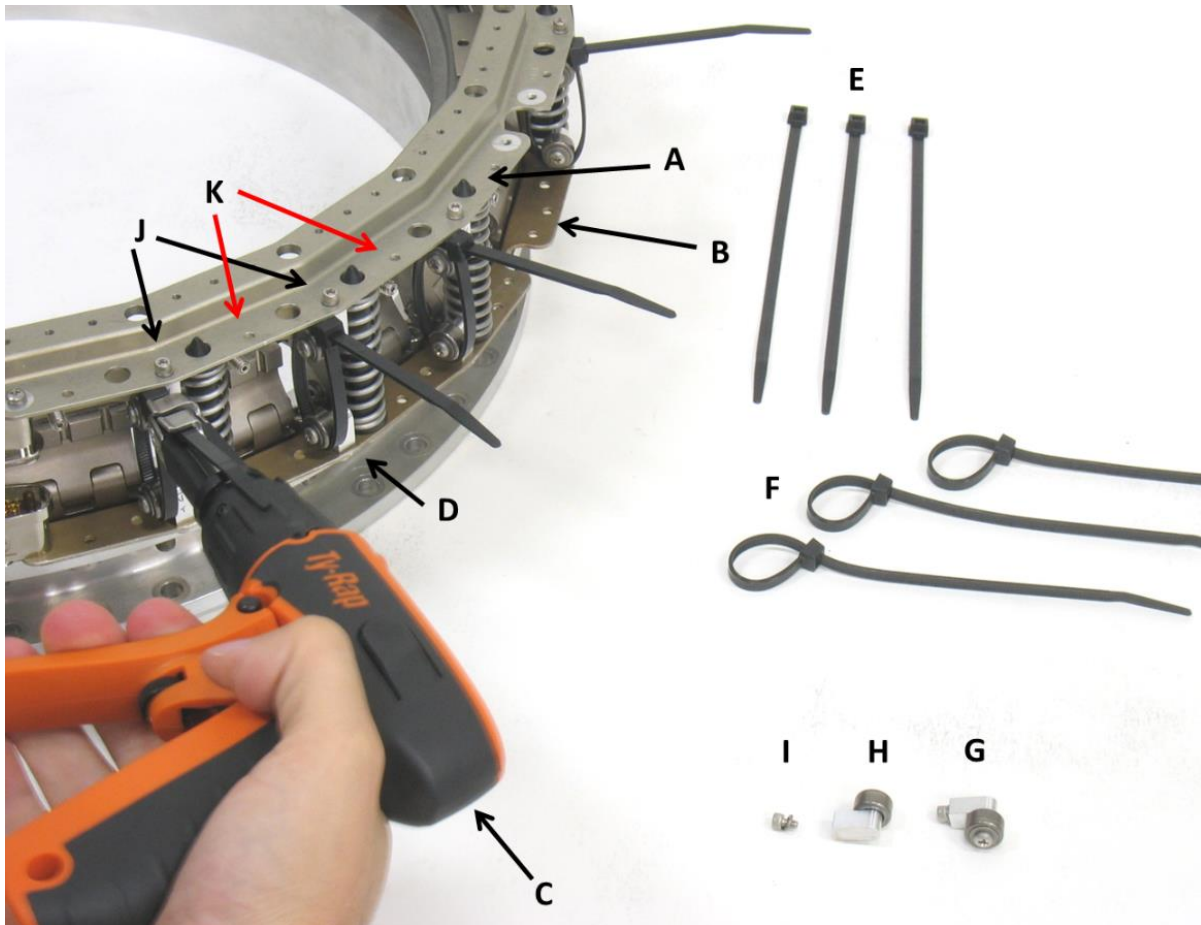

Figure 18-1: LCT Equipment
Figure 18-1 shows the individual equipment necessary to operate LCTs and also the LCTs installed on the Lightband. See Table 3-6 for a detailed equipment list.
18.2.2	<p>Attach one half of the LCT pairs to the Lightband Upper Ring flange. Only use the outboard corner holes of the flange shown in Figure 18-1 and locate each LCT as close to a Separation Spring as possible. Restrain the LCT with a 1/4 inch open-end wrench while torquing the screw with a 3/32 inch hex key as shown in Figure 18-2.</p> <p>Torque screws 10 to 12 in·lb total. Maximum running torque is 8 in·lb.</p> <p>Note: An LCT placed between adjacent Separation Springs must be rotated outward to ensure the LCT's bearing clears both Springs. Since the LCT will now protrude radially outward from the Lightband's default stayout diameter, ensure this protrusion is acceptable for both the payload and LV.</p>
18.3.4	Measure the distance between Upper and Lower Ring flanges (A and B in Figure 18-1) next to each LCT and record in Table 18-1. For reference the nominal uncompressed distance is 2.13 inch for the dimension shown in Figure 8-7. Lightly tighten each cable tie until the flange distance measures 2.00 to 2.05 inch at every LCT (1). Note: Failure to evenly compress the Lightband increases probability of breaking cable ties.